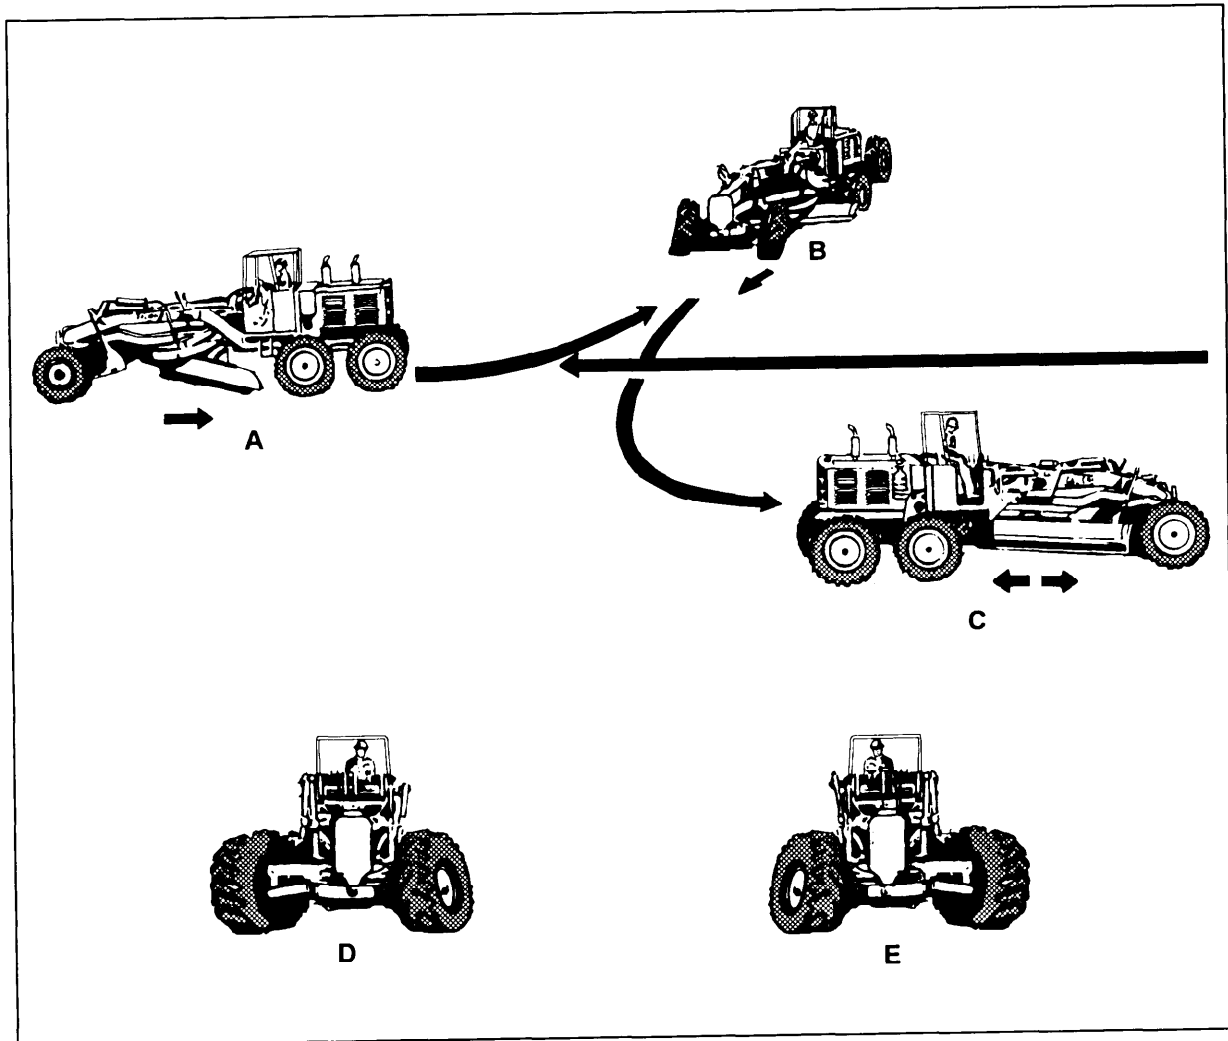

Figure 10-20.—Turning the grader around technique.
help in turning the grader around on a construction project. Figure 10-20 shows a simple technique to turn the grader around. With the wheels leaned in the direction of the turn (A), back across the ditch (B), and then complete the turn (C). By keeping the front wheels on the roadway and leaning the wheels in the direction of the turn, you can make the grader turn with ease.